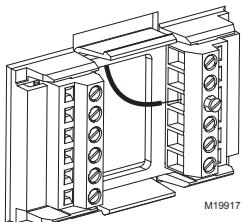

Fig. 5. Insert wires into terminal block.
3. Insert the wires into the terminal block and tighten each screw terminal. See Fig. 5.